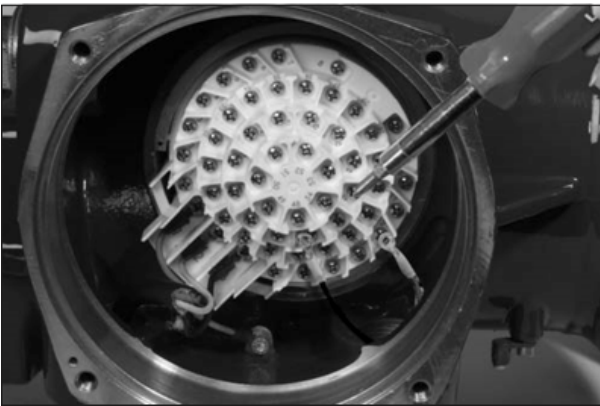

Figure 20 - Connecting Network Cable to the MX/QX Terminal Block
6. Connect the network cables to the MX/QX terminal block as shown in Figure 20.